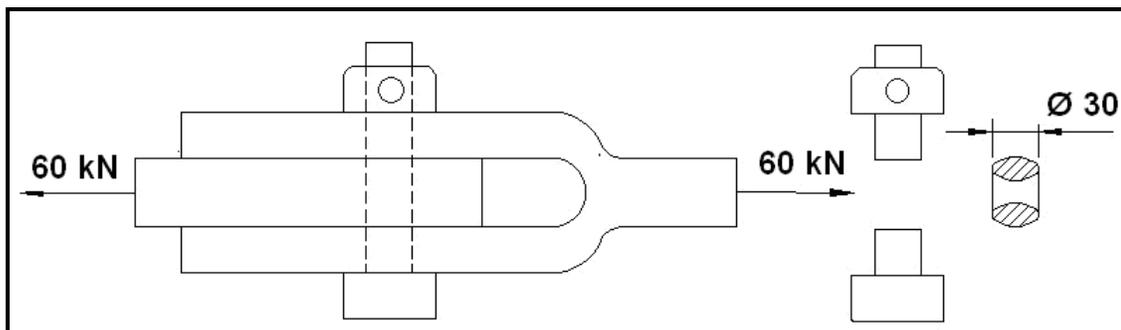

FIGURE 1.5
- 1.13 What type of stress is acting on the bolt of the knuckle joint shown in FIGURE 1.5?